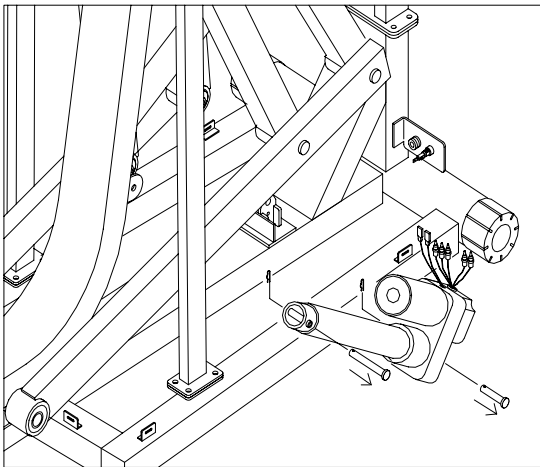

Figure 2. Remove the motor.
2. Remove the incline motor set as shown in Figure 2. First, remove the pins that hold the incline motor in place. Then pull out the motor.